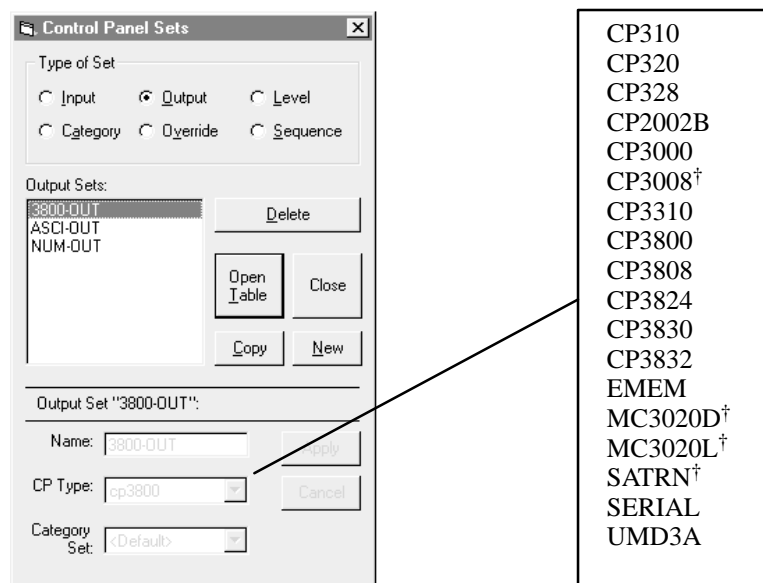

Figure 5–66. .
- If **CP 2002**, **CP 3000**, or **CP 3800** is selected, clicking on “Apply” and “Open Table” will open up a blank version of the table shown in Figure 5–67. These are 20–category panels. Press the INSERT button to start building the table. Then skip to Step 9.
- If **CP 320**, **CP 328**, or **CP 3808** is selected, clicking “Apply” and “Open Table” will open a blank version of the table shown in Figure 5–67. These are 16–category panels. Press the INSERT button to start building the table. Then skip to Step 10.
- If **CP 3824** is selected, clicking “Apply” and “Open Table” will open a blank version of the table shown in Figure 5–67. This is a 15–category panel. Press the INSERT button to start building the table. Then skip to Step 10.
- For **CP 3830** panels, select type “CP3830.” Clicking on “Apply” and “Open Table” will open a blank version of the table shown in Figure 5–67. These are 12–category panels. Press the INSERT button to start building the table. Then skip to Step 10.